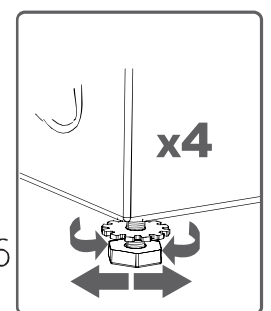

Fig6
**4:** Adjust by rotating the feet upwards or downwards. (Fig 6)